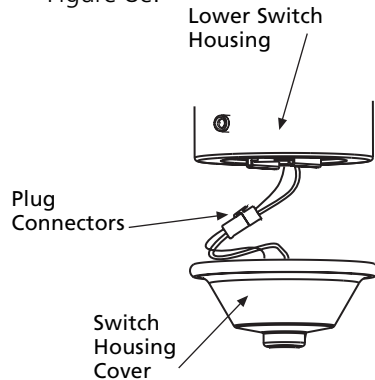

Figure 8b - Connecting the Plug Connectors
2. Connect the upper plug connector from the Lower Switch Housing to the lower plug connector in the light kit. See Figure 8b.